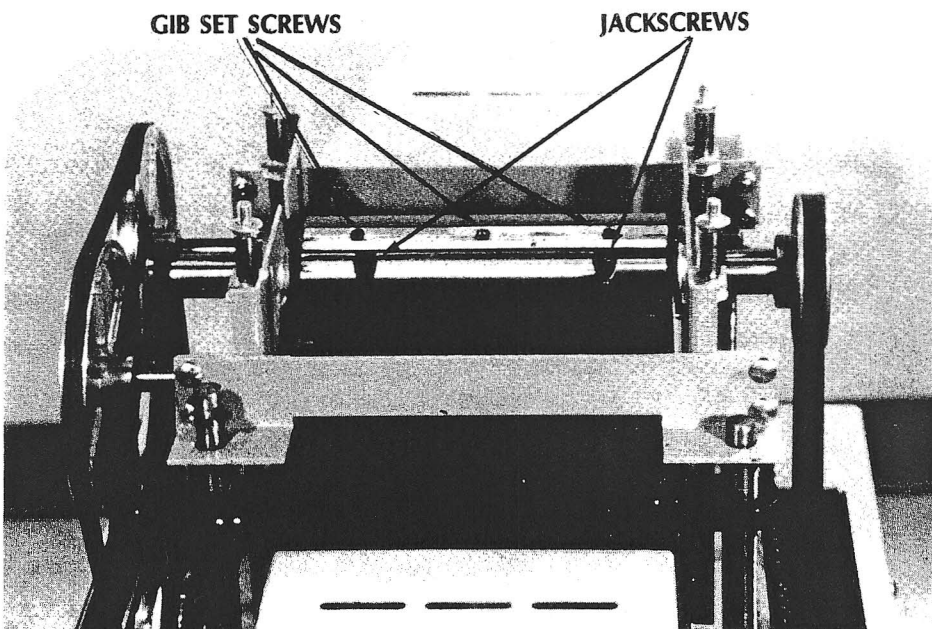

Fig. 6
3. Insert knife with the beveled edge toward the jackscrews and center the knife in cutterhead. (fig. 6)